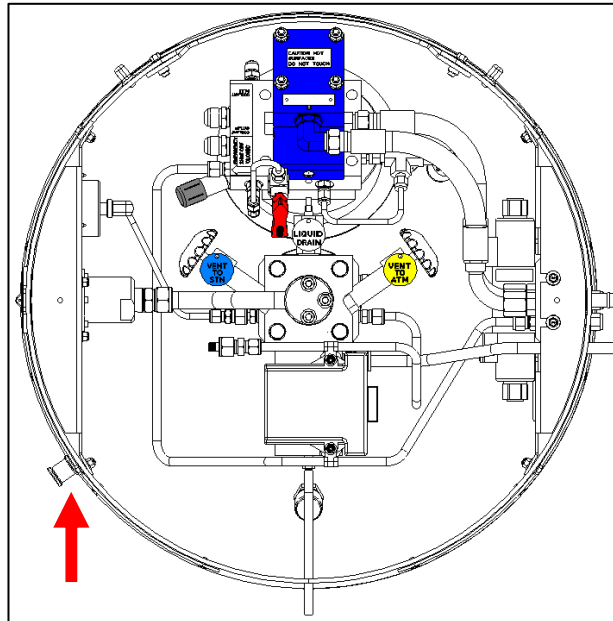

Figure 1. Location of Tank grounding lug (RHS tank shown).
4. Ground the tank at the tank grounding lug using grounding cable 10010815 (ground to designated grounding point, fence post, building external pipes etc.), see Figure 1.